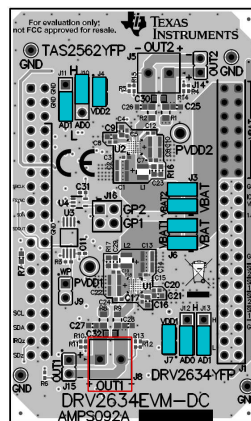

Figure 4. Mono Setup
3. Remove the jumpers at J3 and J4 as shown in Figure 4.